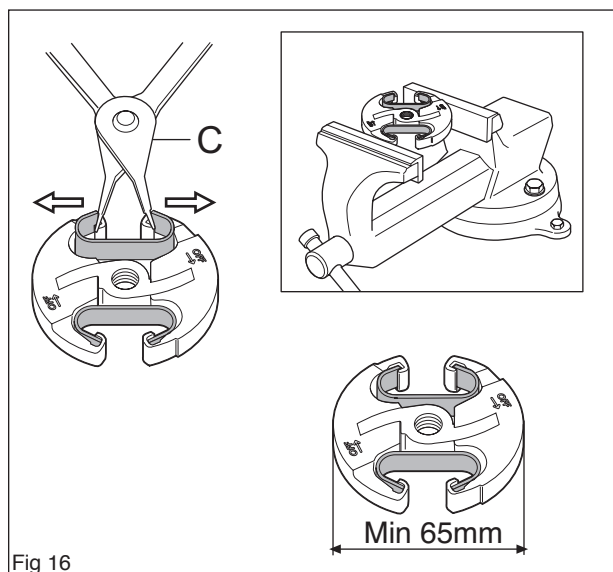

Fig 16
Secure the clutch in a vice as shown in figure. Carefully release the clutch springs using circlip pliers (C) (see figure 16)
- Check the thickness of the clutch shoes by using vernier callipers to measure the diameter of the clutch. If the diameter is less than 65 mm the clutch assembly must be replaced. (see figure 16)